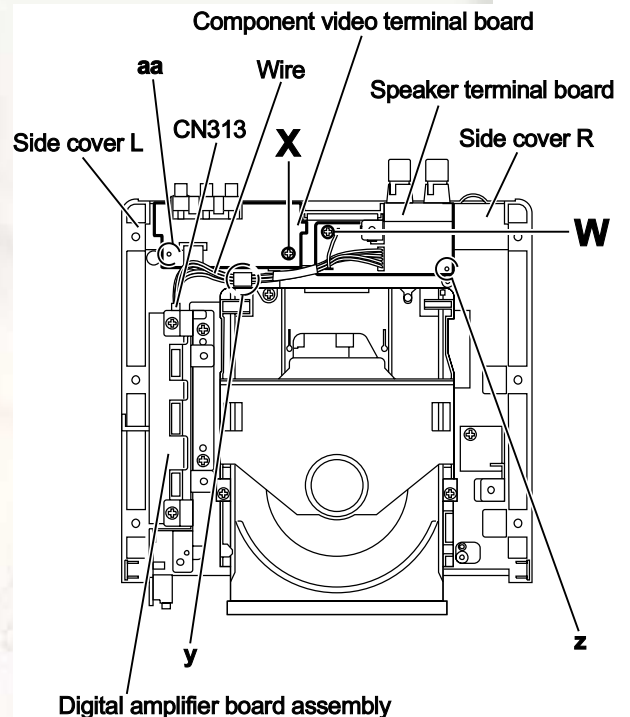

Fig.21
3.1.11 Removing the speaker terminal board (See Fig.21.)
When connecting the wire, connect the wire to connector **CN313** on the digital amplifier board assembly after pass it through the section **y** of the side cover L. (See Fig.21.)
3.1.12 Removing the component video terminal board (See Fig.21) [For A version]